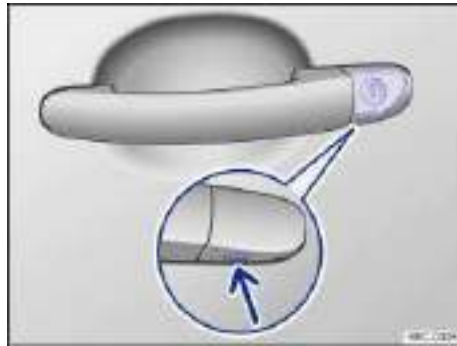

Fig. 178 Door handle on driver door: Concealed lock cylinder.
- Insert the key bit from below into the opening of the cover cap on the driver door ⇒ fig. 178 (arrow) and lift the cover cap off. Grasping the door handle and pulling slightly makes it easier to remove the cap.